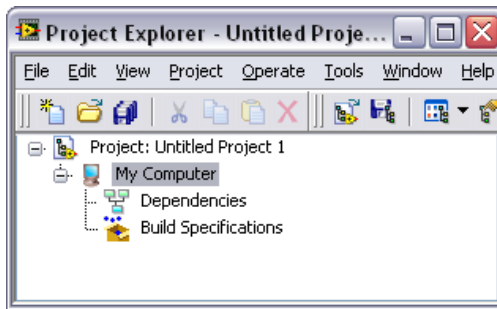
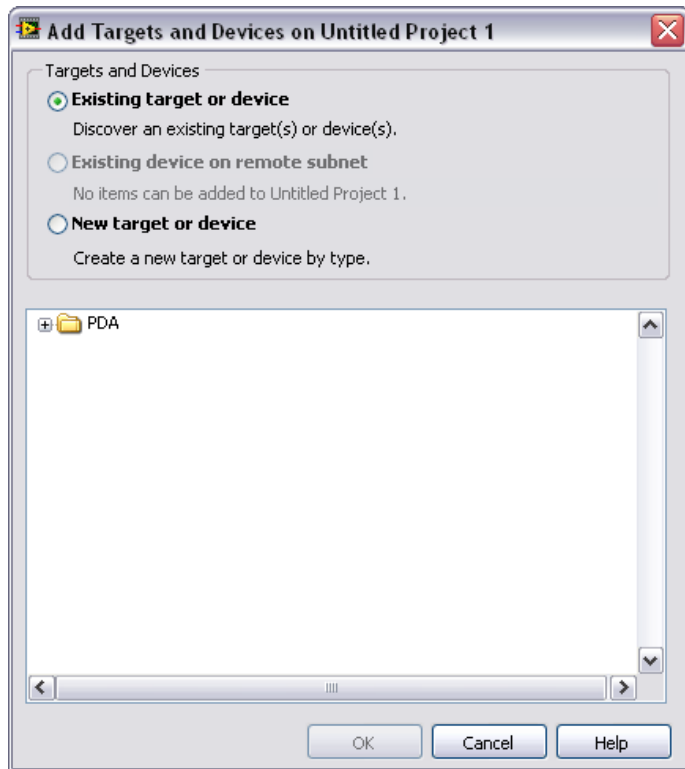

Figure 1. Project Explorer Window
Figure 2. Add Targets and Devices Dialog Box
1. Launch LabVIEW. In the **Getting Started** window, select **Empty Project** to open an empty LabVIEW project in the **Project Explorer** window as shown in Figure 1. LabVIEW creates an empty project with a Windows target, shown in Figure 1 as **My Computer**.
2. Right-click the project, which is **Project:Untitled Project 1** in Figure 1, in the **Project Explorer** window and select **New»Targets and Devices** from the shortcut menu to open the **Add Targets and Devices and Devices** dialog box as shown in Figure 2.